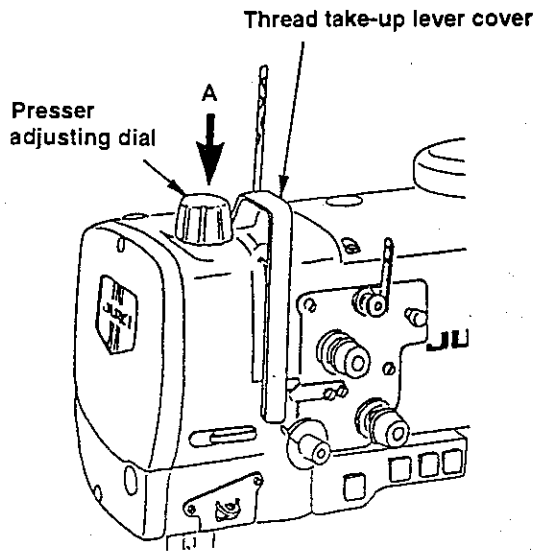
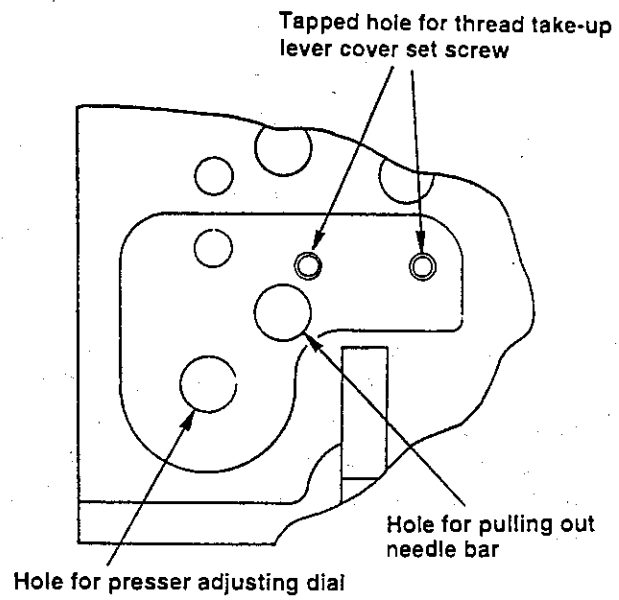

Fig. 1
Fig. 2 (As viewed from A side)
<ol style="list-style-type: none"> 1. Remove the presser adjusting dial and the thread take-up lever cover. (Fig. 1) 2. Loosen needle clamp (asm.) fixing screw ❶ through the hole for pulling out needle bar with the hexagon wrench supplied with the machine, and remove the needle clamp (asm.). (Fig. 2 and Fig. 3) 3. Insert the pin so that it is placed in the groove of needle bar, and tighten the fixing screw ❶. (Fig. 3) 4. Attach the presser adjusting dial and the thread take-up lever cover. (Set the pressure to the standard adjustment value when the pressure adjusting dial is installed. Refer to page 59.) 5. The maximum sewing speed will change in accordance with the needle gauge. Set the speed to the proper one. (Refer to page 6)